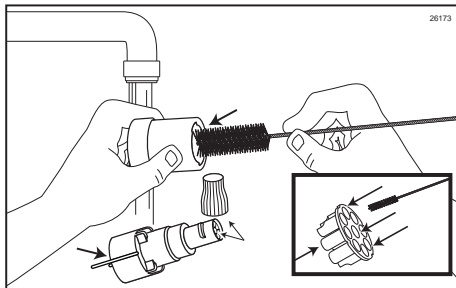

Figure 58
6. Clean the Syrup Line Manifold, Manifold cap, Duckbill Check Valve, and Coupler Body using a small brush and detergent water. Be sure that each of the 9 individual check valves is cleaned thoroughly by brushing through each valve opening. Rinse thoroughly. (See Figure 58.)